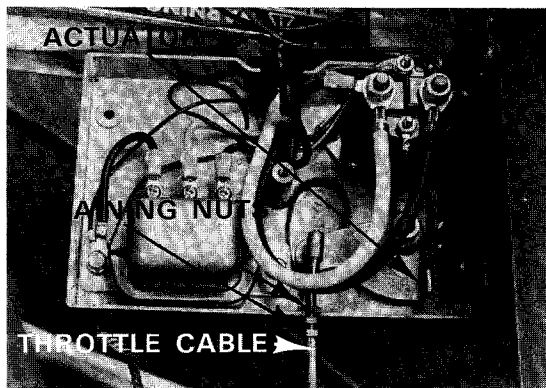

Figure 7-15
3. Remove electrical box cover and loosen cable housing retaining nuts at electrical box (**Figure 7-15**).
2. Place cable housing into bottom of slot in electrical box, with equal length of threads on inside and outside of retaining nuts (Figure 7-15). Tighten fingertight.